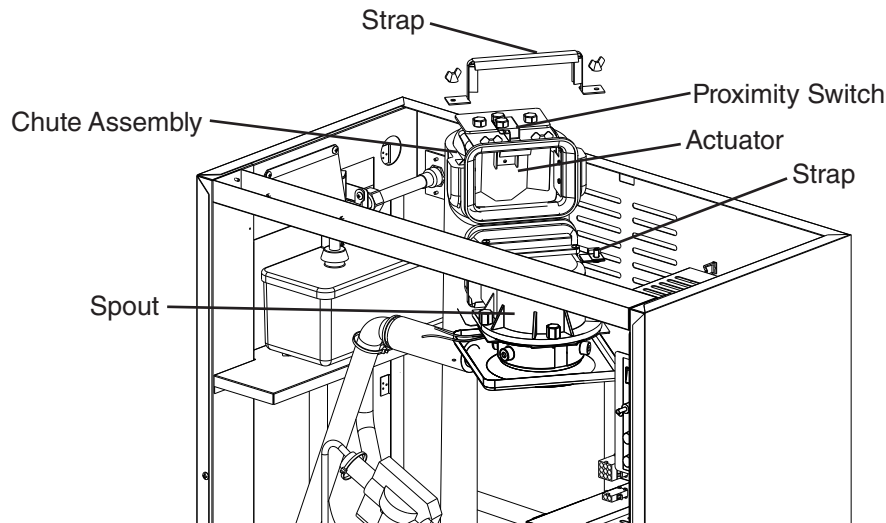

Fig. 12
- 3) Remove the spout-to-chute strap connecting the spout to the chute assembly, then remove the spout-to-chute packing, spout-to-chute bracket (if applicable), and drip guide (if applicable). See Fig. 12. Pull up the chute assembly slightly so that you can access the actuator located in the top of the chute.